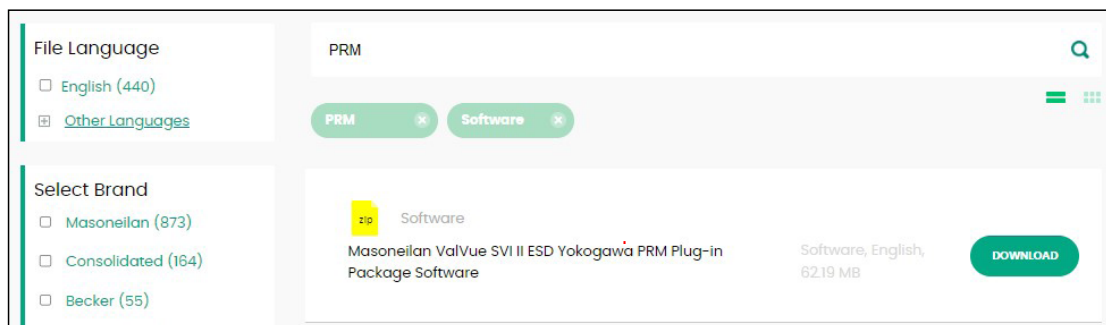

Figure 3 - Download Search for PRM
- a. Entering *PRM* as the search term at the search screen (*Figure 3*), and clicking the magnifying glass search icon.
- b. Scrolling down and find the installer (red arrow in *Figure 3*) and clicking **Download**. The file downloads to your Windows *Download* folder.